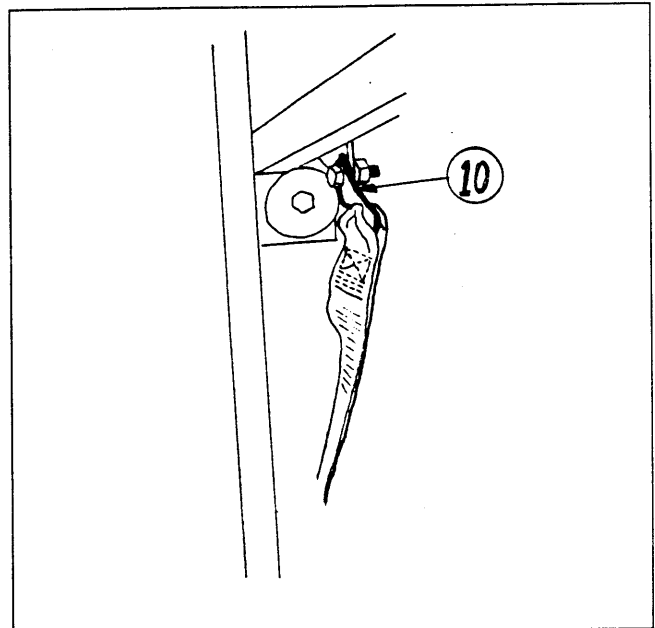

Figure 10
the left, rear cab frame. Take one of the seat belt (8) anchors and position it against the inside of the support. Bolt the anchor to the support using the seat belt hardware provided (see Figure 10).